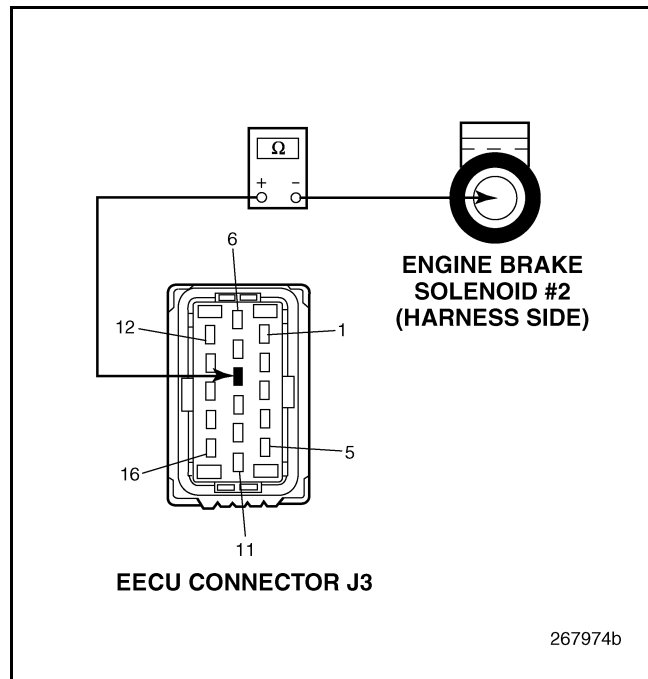

Figure 436
4. Check for continuity between EECU harness connector J3, pin 8 and the terminal of the Engine Brake Solenoid #2 harness connector (see Figure 436).